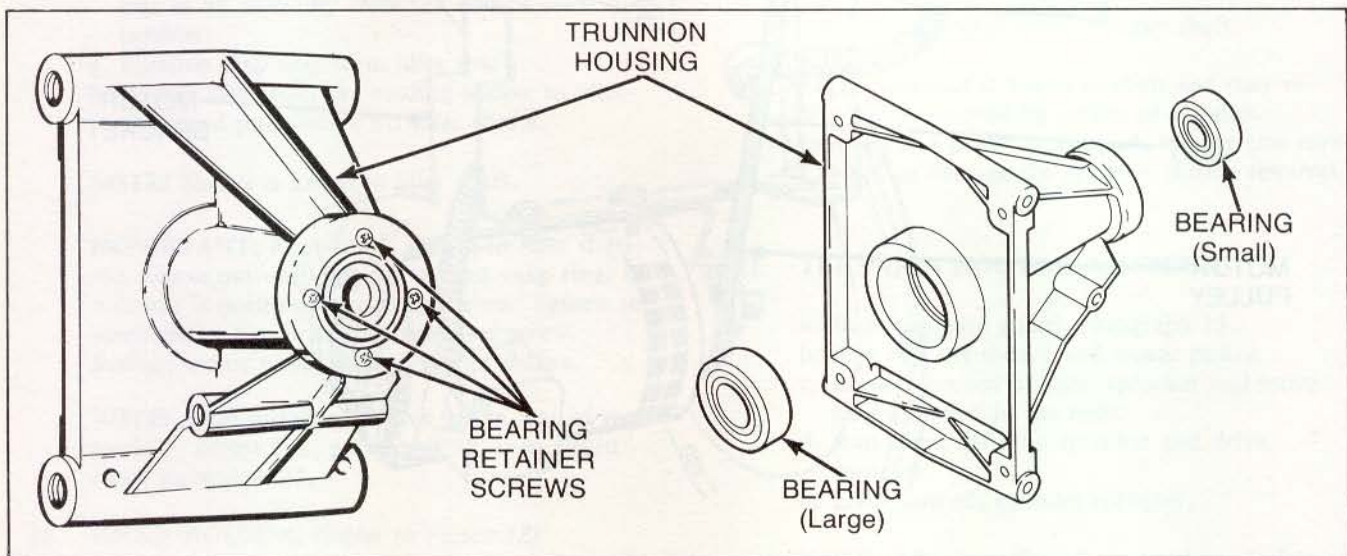

Figure 19
k. Remove the four bearing retainer screws holding the small bearing in housing, *Figure 19*.